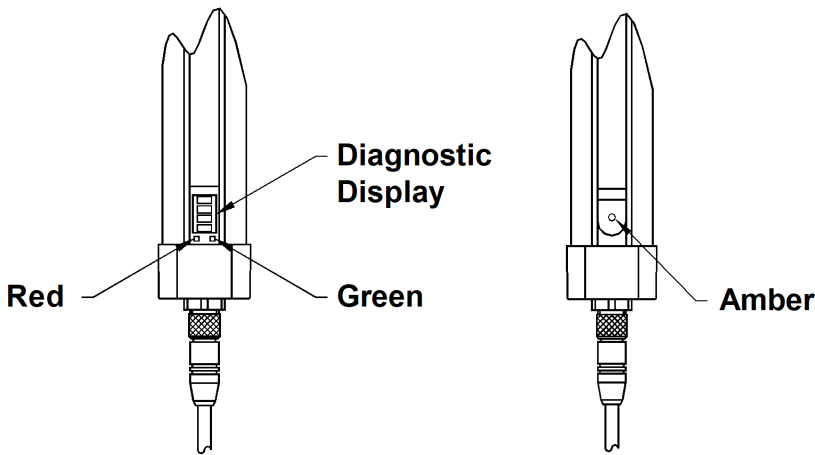

Figure 4
The LED indicators on the standard/master emitter unit and all slave units are the same as for the previous section. The receiver unit contains a scrolling 4-digit alphanumeric display for diagnostic purposes as shown in Figure 4.
- Drill holes 4.2mm diameter through the front face only of the floor post and tap M5. Secure brackets in place with M5 x 20mm cap allen screws. See figure 4.